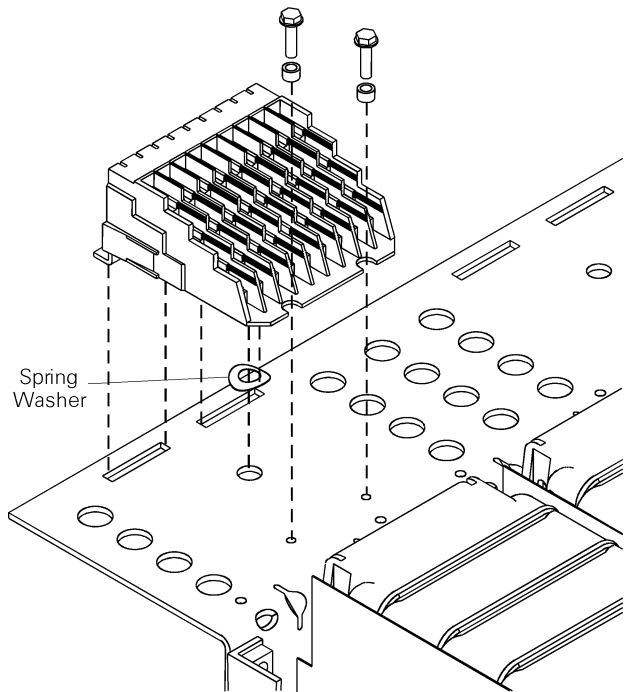

Figure 6. Removing or installing the secondary disconnect.
3. Remove the two screws and standoffs securing the secondary disconnect to the mounting plate, taking care to retain the spring washer from the pin on the underside of the disconnect, as illustrated in Figure 6. Cut the wire ties securing the secondary disconnect leads to the mounting plate and to the breaker back frame. Slide the secondary disconnect off the support bracket. Secure the secondary disconnect to the front frame assembly.
7. Place the flexible washer on the molded pin on the bottom of the secondary disconnect, then slide the two feet into the slots on the mounting plate. Secure with the two screws and standoffs, as illustrated in Figure 6. Replace the wire bundle into the channel on the top of the frame and secure with wire ties.
2. Remove the two bolts and lock washers that attach the arc chute retainer to the front frame and remove the retainer. Slide out the arc chutes and interphase barriers. Note that there are three distinct types of phase barriers: right, inner (2), and left.
3. Remove the two screws and standoffs securing each secondary disconnect to the mounting plate, taking care to retain the spring washer from the pin on the underside of the disconnect, as illustrated in Figure 6. Cut the wire ties securing the secondary disconnect leads to the mounting plate and to the breaker back frame. Slide the secondary disconnect off the support bracket. Secure the secondary disconnect to the front frame assembly.